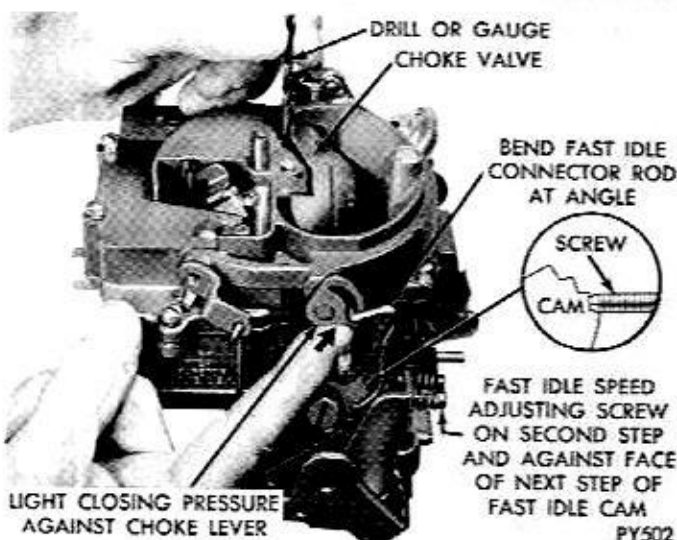

Fig. 12—Fast Idle Cam Position Adjustment
(2) Insert specified drill (see specifications) between choke valve and wall of air horn. An adjustment will be necessary if a slight drag is not obtained as drill is being removed.
(3) If an adjustment is necessary, bend fast idle connector rod at lower angle, using Tool T-109-213, until correct valve opening has been obtained. (Fig. 12.)